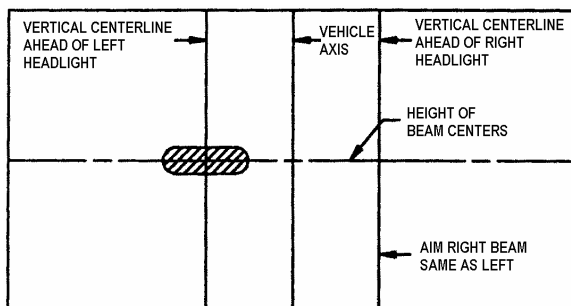

FIGURE 30: HIGH-INTENSITY ZONE (SHADED AREA) OF A PROPERLY AIMED UPPER BEAM ON THE AIMING SCREEN 7.6 M (25FT) IN FRONT OF VEHICLE 06503
5. High beam headlights are aimed so that the center of the high-intensity zone is located at the horizontal and straight ahead vertically (Fig. 30).